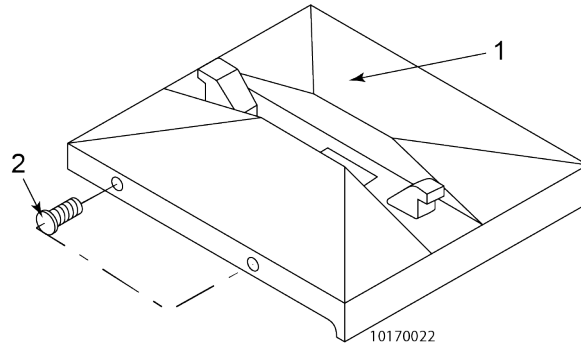

Figure 2-22 Lid Cover Screws
- 1) There are two lid liner screws (2) on either side of the lid cover (1), see Figure 2-22 *Lid Cover Screws*, page 61. Back these four screws out about 1/2 inch.